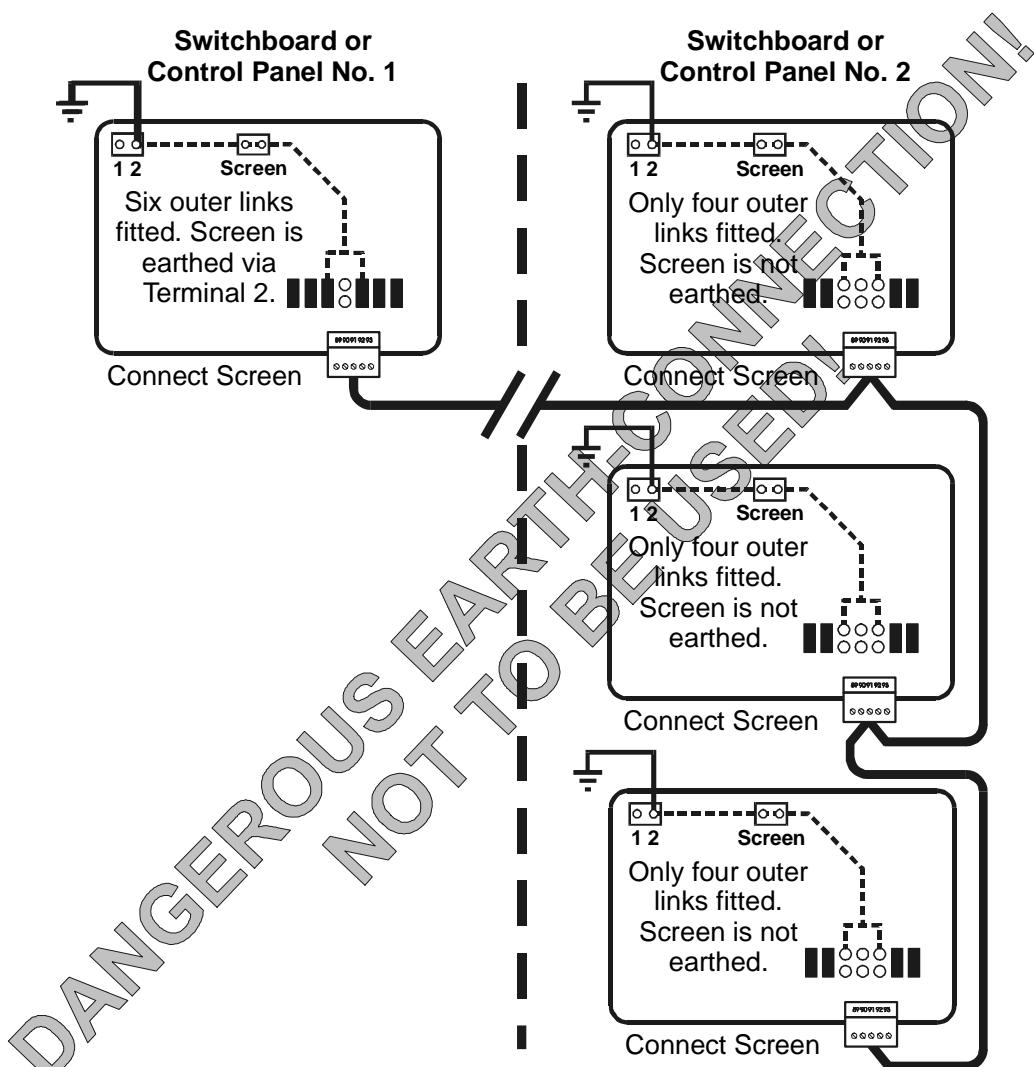

Figure A-15. Hazardous Connection Example, Circuit 1.
**A-4.2.9.1. Hazardous Earth-Connections.** When the Digital Controllers are supplied and earthed from two different switchboards, a hazardous situation can be created. One earth connection is at the local switchboard and the second earth connection is by way of the screen of the Comms cable (Figure A-15). In the event of a fault, there could be full supply voltage difference between the two earth connections. This can destroy the RS485 ICs and anyone touching the screen can receive a severe electric shock. The RS485 ICs in the three Digital Controllers in Control Panel No.2 will be damaged if the voltage difference exceeds the ratings of the ICs. Because of this hazard, this arrangement of connection should not be used.